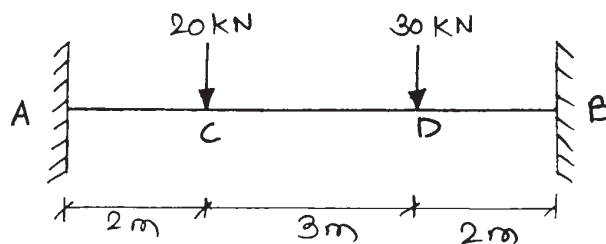

Fig. No. 1
- b) Calculate fixed end moments and draw B.M.D as shown in Fig. No 1.